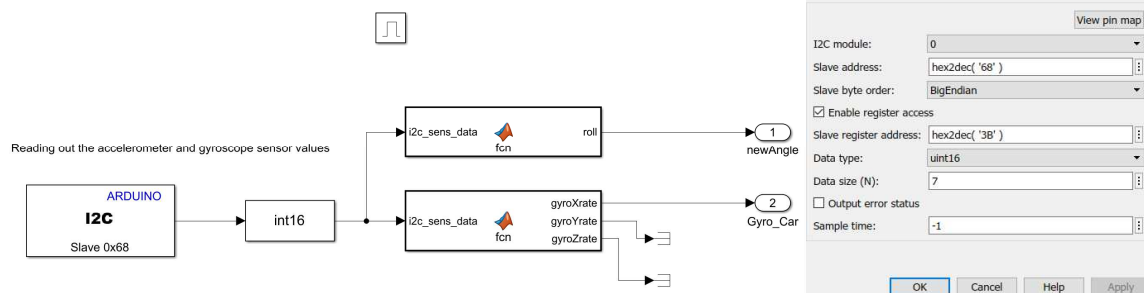

Figure 5: I2C Sensor Configuration
6. Attach the Kalman Filter according to FR1 (see Annex) to the gathered signals (roll to newAngle, gyroXrate to newRate, dt shall be the sample time) of Figure 5